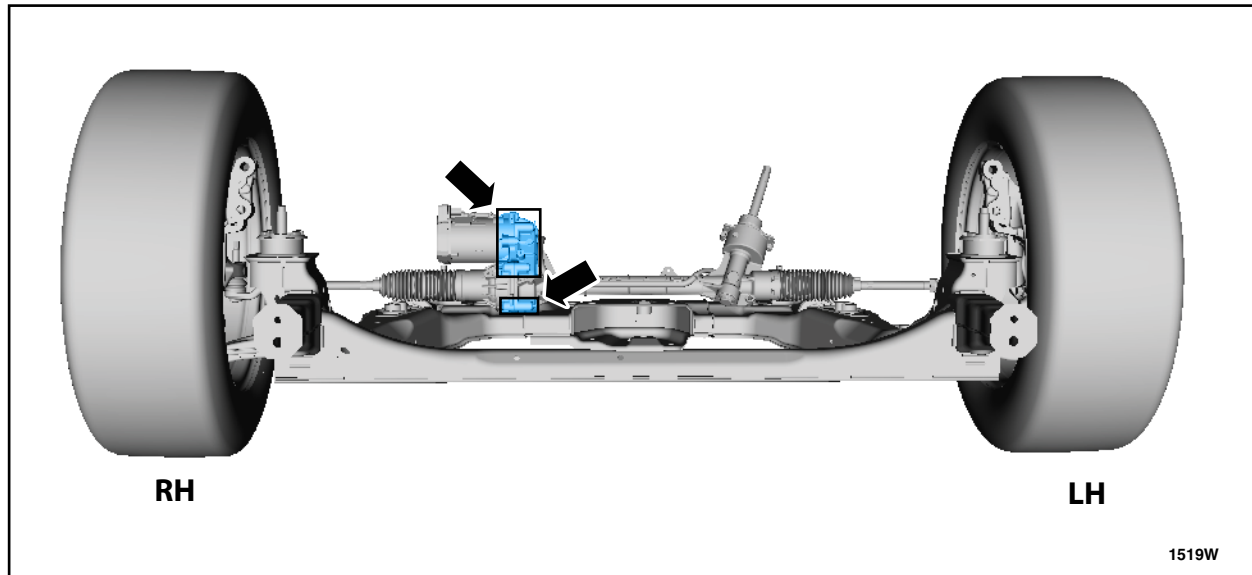

FIGURE 20
4. Working from the front of the subframe, insert nozzle between steering gear and subframe housing seam. Apply sealant to gear motor bolts one and two, steering gear to housing seam, housing bolts five, six and seven heads, threads and thread holes. See Figures 20 and 21.